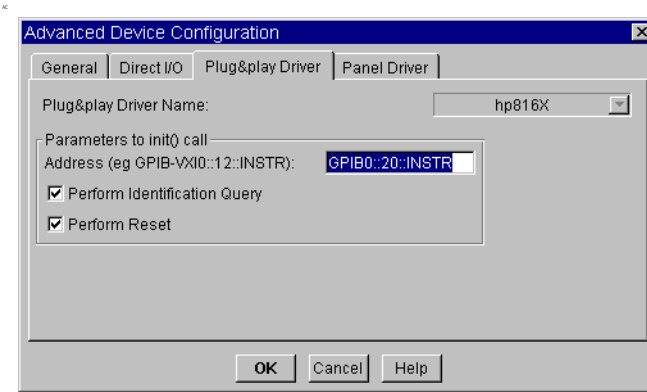

Figure 6 Advanced Device Configuration - Plug&play Driver
- 4 Press *Advanced I/O Config...*, the *Advanced Device Configuration* box pops up. Select the *Plug&play Driver* tab, the box in Figure 6 appears.